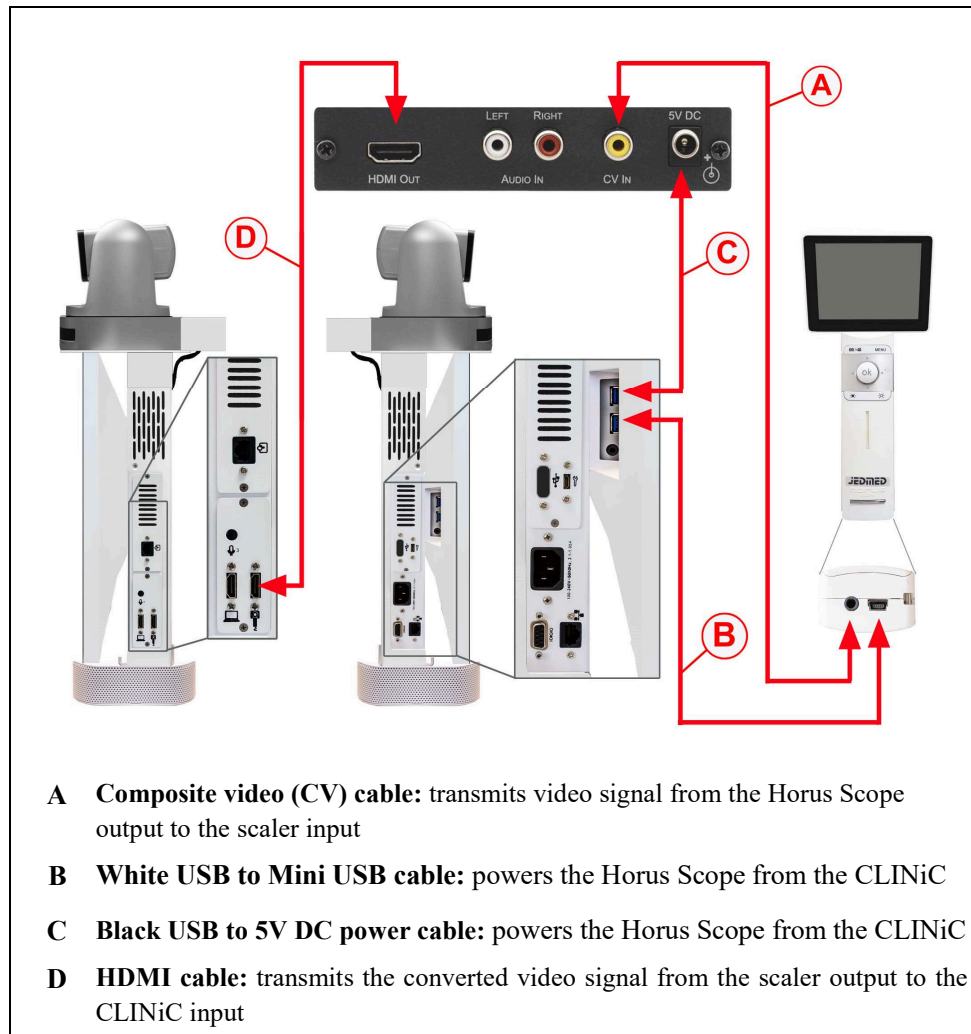

Figure 4. Horus Scope – CLINiC connectivity diagram
The connection diagram between the Horus Scope and the CLINiC through the supplied video scaler, are shown in figure 4 below:
2. Insert the **B2** and **C2** USB connectors of the white and black USB cables into the **E1** and **E2** jackets of the fishing tape. The B2 and C2 USB connectors must be fed through to the CLINiC USB ports using the fishing tape (refer to Figure 4 connectivity diagram).
3. Feed the B2 and C2 ends of the white and black USB cables through the space between the monitor and the CLINiC codec enclosure, from the side of the CLINiC where the cradle assembly is mounted (1), all the way to the other side of the CLINiC where the USB ports are located (2).
4. Once the B2 and C2 ends of the white and black USB cables have been pulled to the other side and can reach the CLINiC USB ports, remove the B2 and C2 connectors from the fishing tape and connect them to the CLINiC USB ports (4).
5. The HDMI Output cable already connected to the video scaler is now connected to the HDMI Input port on the side of the CLINiC (3)